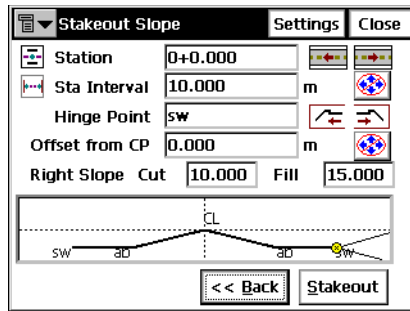

Figure 7-39. Stakeout Slope
- In the *Stakeout Slope* screen, set the properties of the cross section at the stakeout station and the interval of the station increment, the hinge point (point of rotation for the Cut/Fill Slope lines) and the values of the Cut/Fill Slope parameters, and the offset from the catch point (the point where the slope crosses the surface of the terrain) (Figure 7-39).